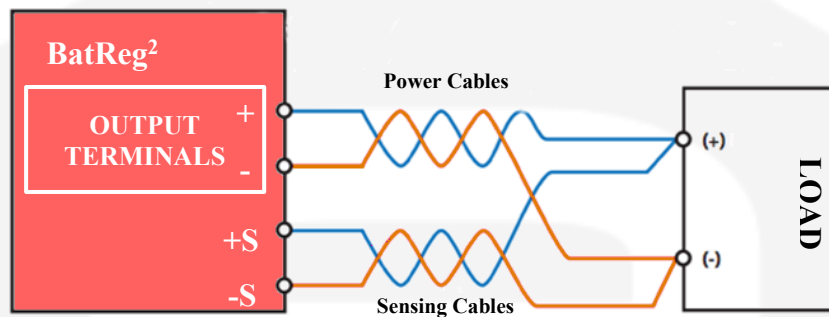

Figure 21: Example of Remote Sensing
3. Using a twisted pair or shielded cable (suggested wire size is 0.3 or 0.5 mm²) connect the +S terminal to the positive output terminal and the -S to the negative output terminal as illustrated in **Figure 21**.
In order to perform remote sensing at different points – e.g. the load terminals – connect Pin #1 and Pin #4 as in **Figure 21**: